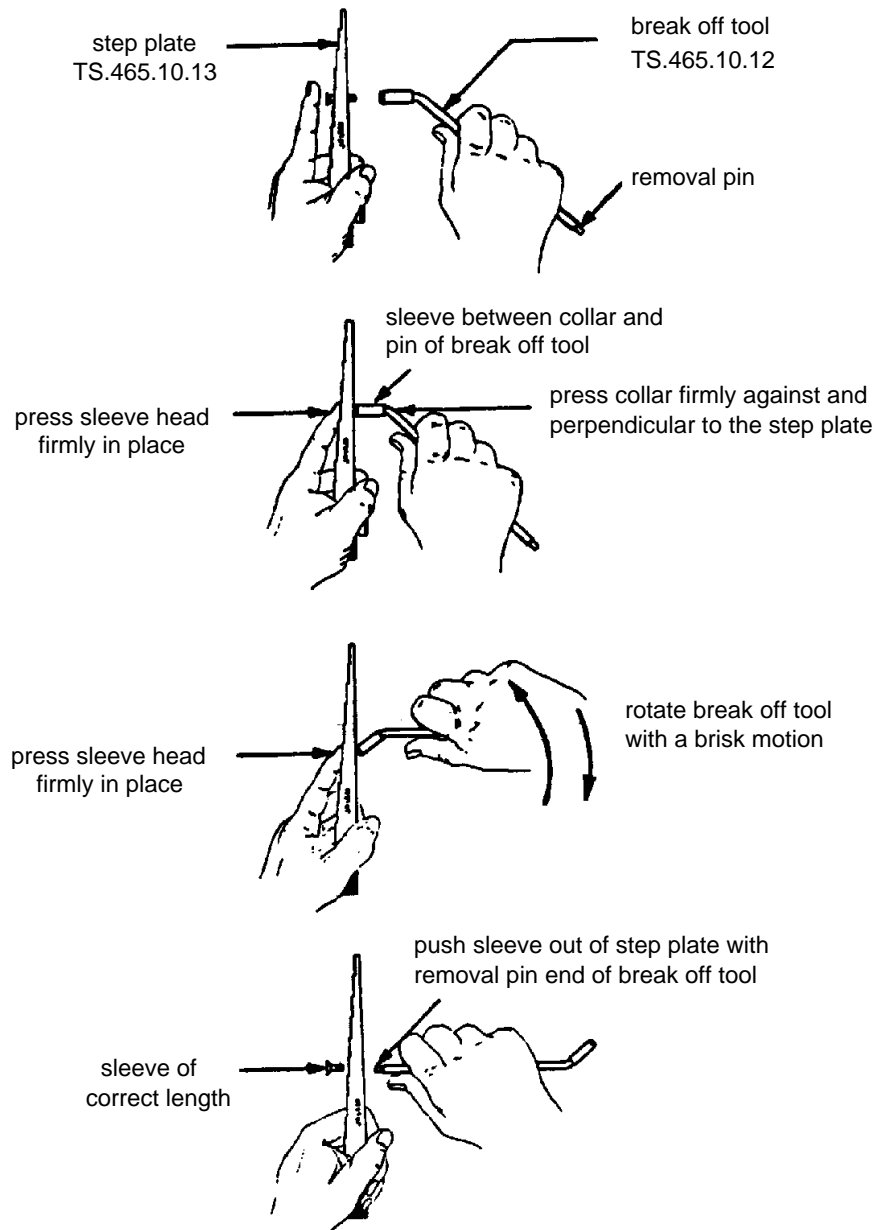

Figure 5 - Breaking Sleeve to the Required Length
- Step 4. Using the break-off tool as shown in Figure 5, break off the excess sleeve. Push the sleeve out using the opposite end of the break-off tool. If the sleeve is slightly too long or the break-off method is not practical (i.e. the sleeve deforms rather than breaking off), grind the sleeve to the correct length using a belt sander. Hold the sleeve in the step tool and grind to the required length. When grinding, avoid overheating the sleeve which can burn the cadmium plating. After grinding, remove burrs as necessary.